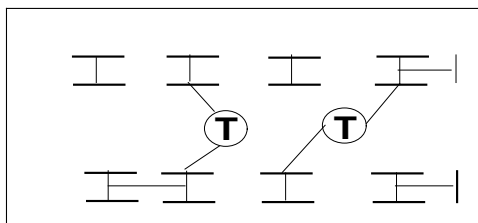

Fig. 3 Wired for 120VAC Operation
Step 1: Wire Power Transformer Terminal Block as illustrated in Figure 3.